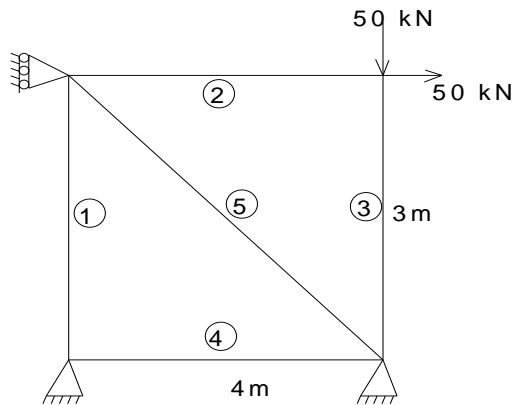

fig.4
13. Analyse the plane truss shown in fig.4 using principles of virtual displacements, $AE = 5000\text{kN}$ for all the members.